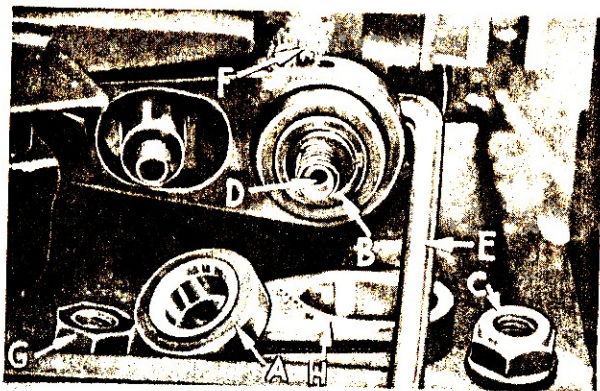

Fig. 15
If eccentrics are unusually tight fitting, in addition to removing nut (Fig. 15) from shaft (D), it may be helpful to remove nut (G) and feed drive connection (H). Then continue as originally suggested.